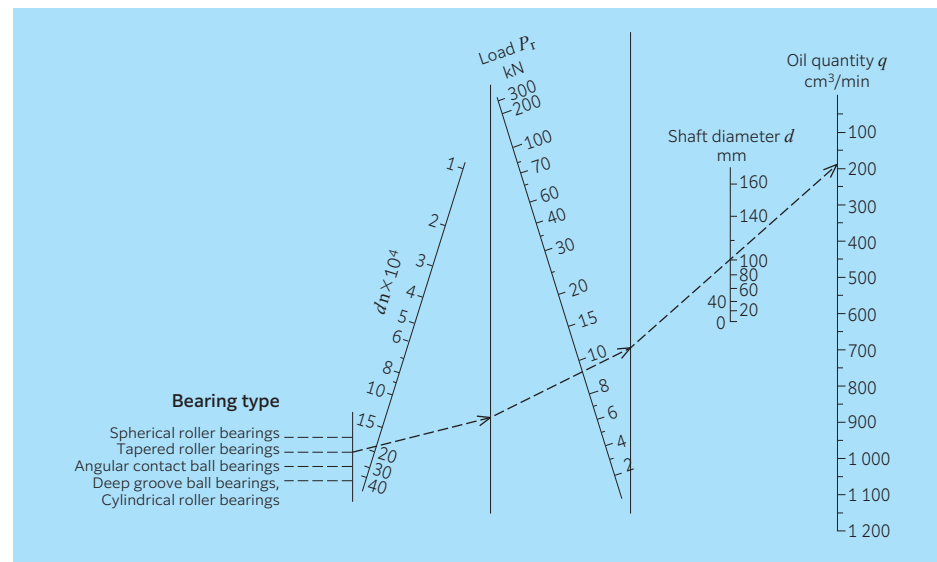

Fig. 11.6 Oil quantity guidelines
- q : oiling amount obtained by diagram (cm3/min) (see Fig. 11.6)
From Fig. 11.6 q = 180 cm3/min